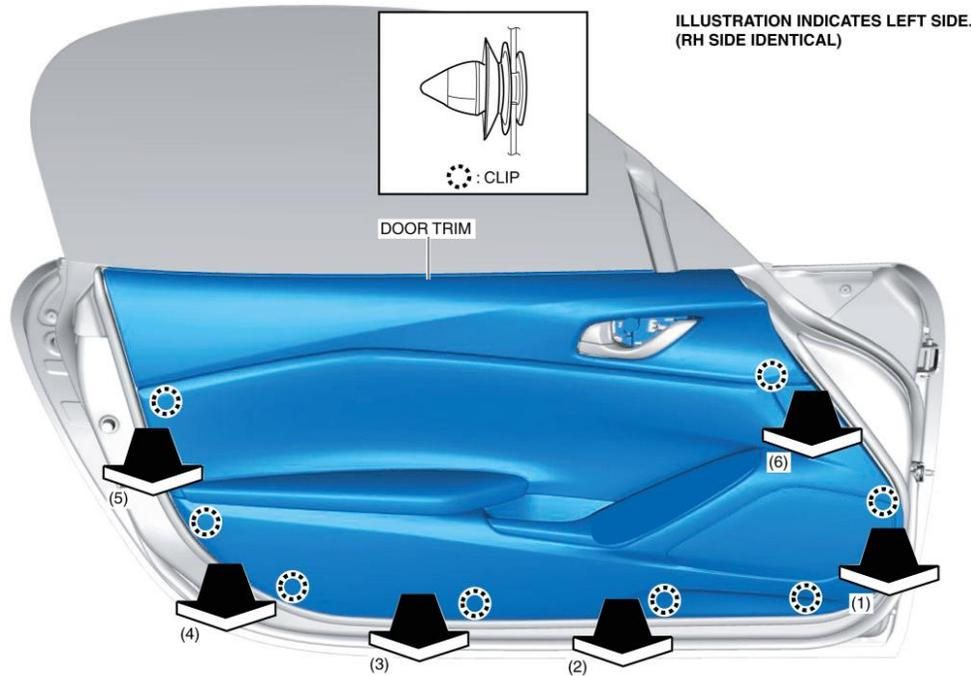

Figure 3
- As shown in *Figure 3*, pull the door trim outward in the order of the numbered arrows (1), (2), (3), (4), (5) and (6) and detach the clips.